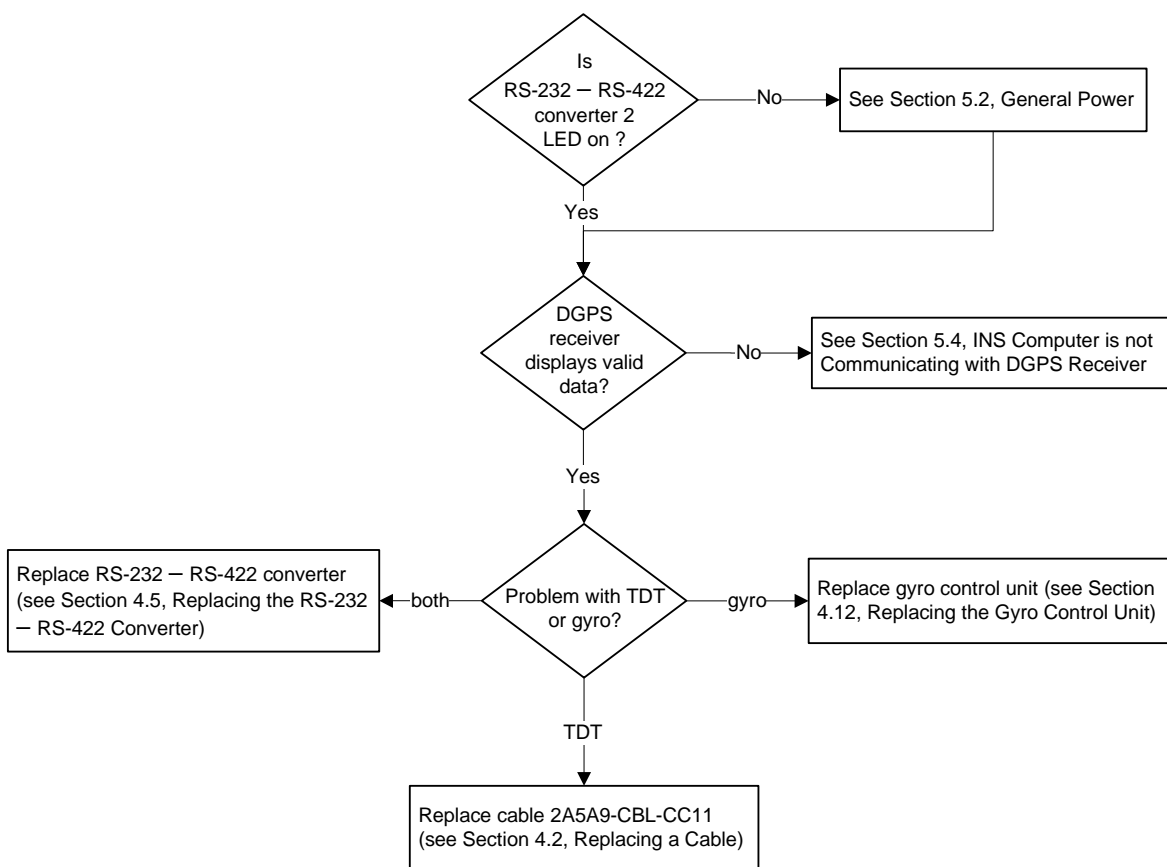

Figure 13 Troubleshooting – TDT Generator or Gyro Control Unit Doesn't Receive Time Code Data
1. Follow the troubleshooting steps in Figure 13.